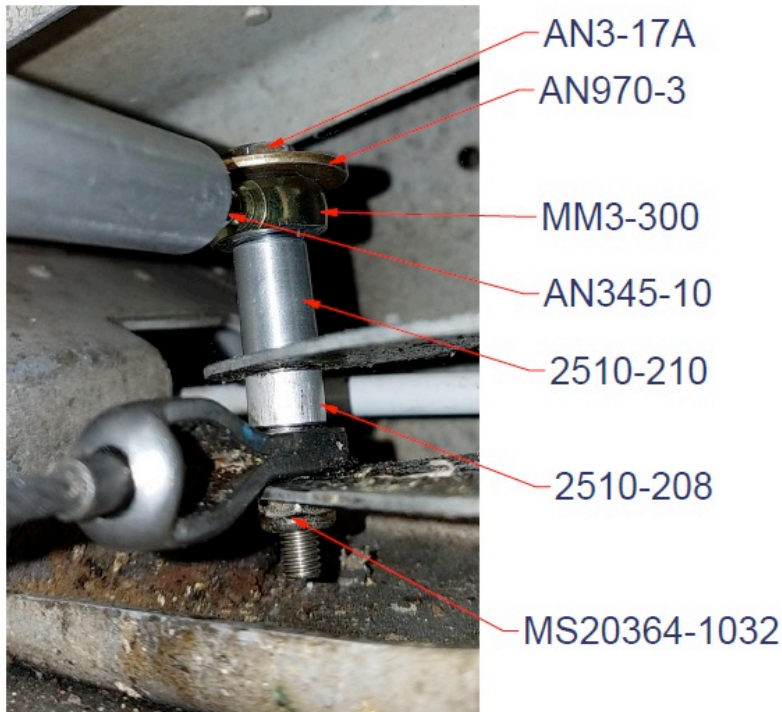

Figure 3-7
- 2.23. Remove the rear aileron cable bolt from the left aileron bellcrank and replace with hardware as shown in Figure 3-7. Torque the AN-3 bolt to 20-25 in-lb.